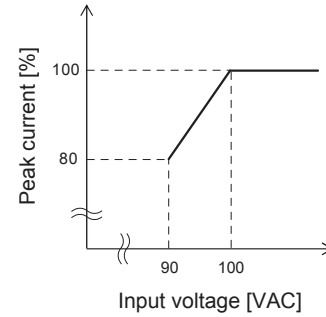

Fig.6.2 Peak current derating curve depending on input voltage
- $I_p \leq \text{Rated peak current}[A]$ Refer to Fig 6.2